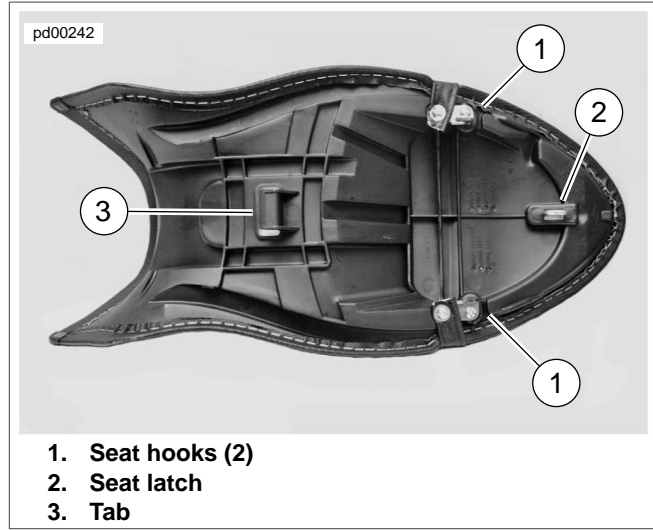

Figure 2-193. Seat Mounting Points: XB9SX/XB12Scg
- a. **For XB9SX and XB12Scg:** Insert the front tab into the slot in the trunk pan. See Figure 2-193.